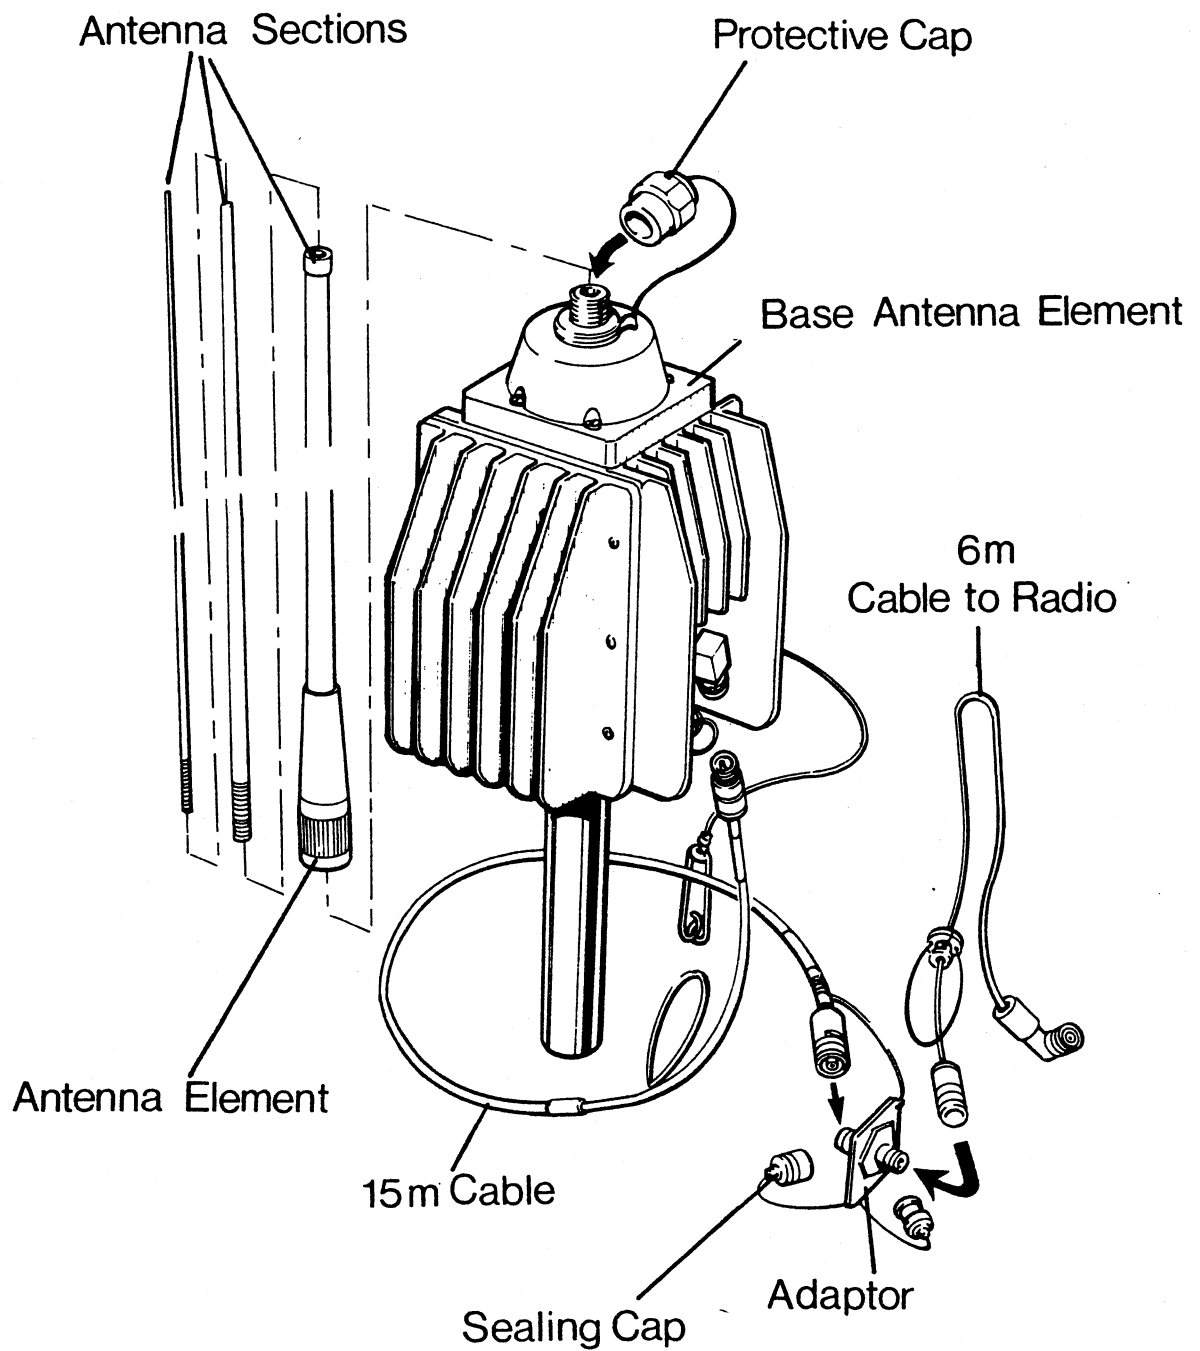

Fig 96.—VHF Elevated Broadband Antenna – Components
(1) Height excluding mast	3.4m
(2) Weight	6.3kg
b. *Components (Fig 96)*